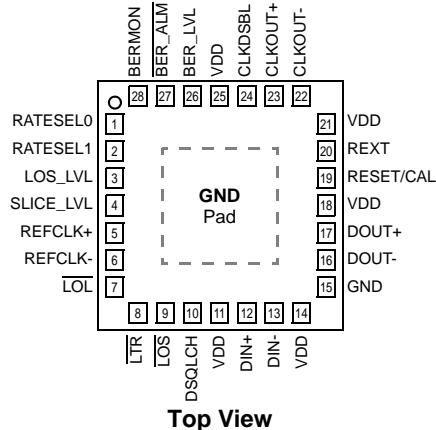
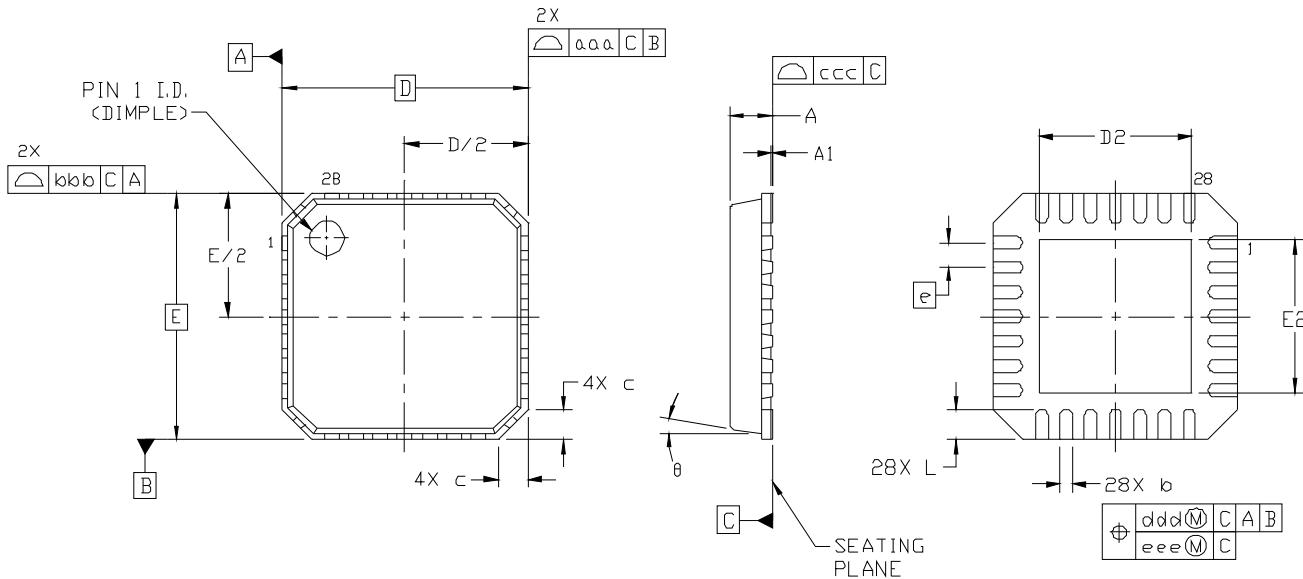

Figure 21. Si5023 Pin Configuration
Figure 22. 28-Lead Quad Flat No-Lead (QFN)
The Si5023 uses the GND pad on the bottom of the 28-lead micro lead package (QFN) for device ground. This pad should be connected directly to the analog supply ground. See Figure 21 on page 22 and Figure 22 on page 26 for the ground (GND) pad size and location.
Figure 22 illustrates the package details for the Si5023. Table 10 lists the values for the dimensions shown in the illustration. For a pad layout recommendation please contact Silicon Laboratories.
- Updated Figure 22, "28-Lead Quad Flat No-Lead (QFN)," on page 26.